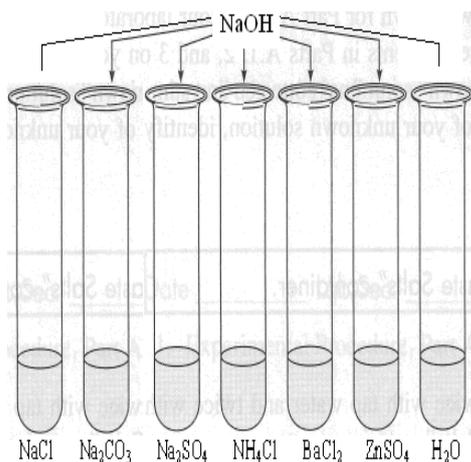

Figure 3.3 Arrangement of test tubes for testing with the sodium hydroxide reagent
- Use a permanent marker to label five additional small, clean test tubes (Figure 3.3). Place 5-10 drops of each of the seven "known" solutions into this second set of labeled test tubes.